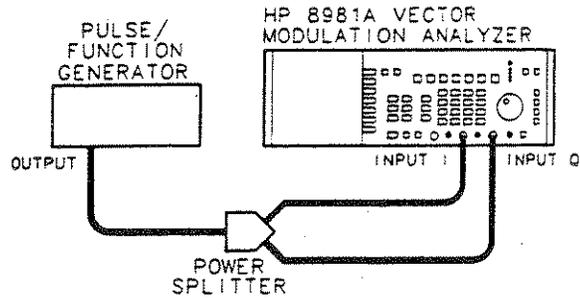

Figure 4-10. I versus Q Timing Accuracy Test Setup
2. Connect the equipment as shown in Figure 4-10: